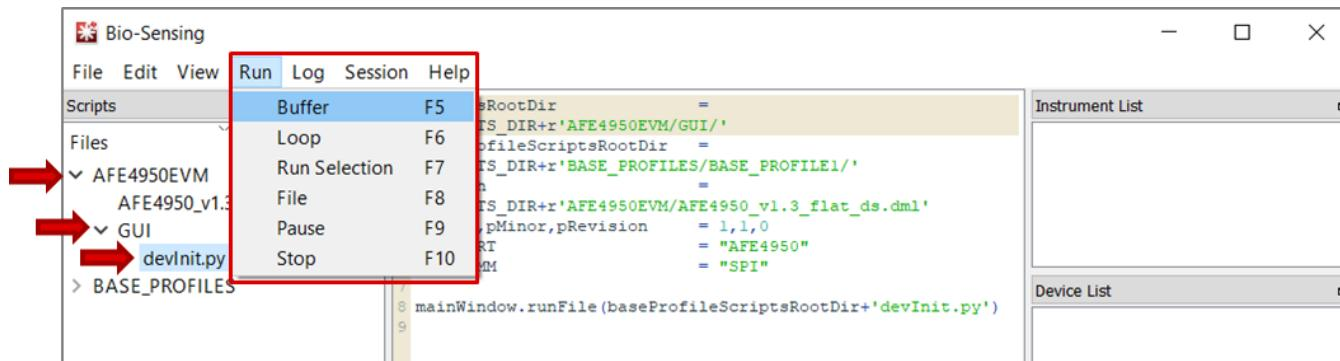
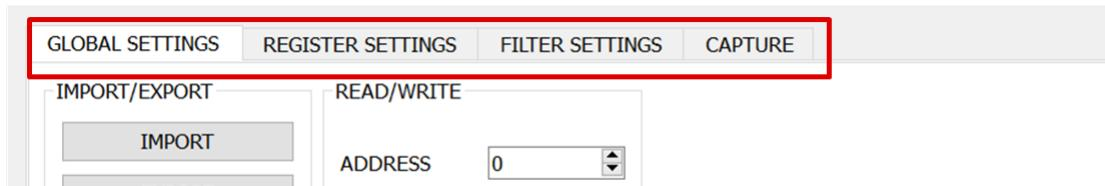

Figure 9. Running the EVM software
Figure 12. EVM GUI Window
- e. Open the EVM software by running **Bio-Sensing.exe**. From project specific profile (i.e. AFE4950EVM >> GUI) go to **devInit.py** script file and run (Short cut for running the script: **F5**) as shown in Figure 9, which loads the default EVM configuration. This will open a GUI window as shown in Figure 12, which has the capture controls. Click **Start Capture** to acquire the signal from the AFE as shown in Figure 16.